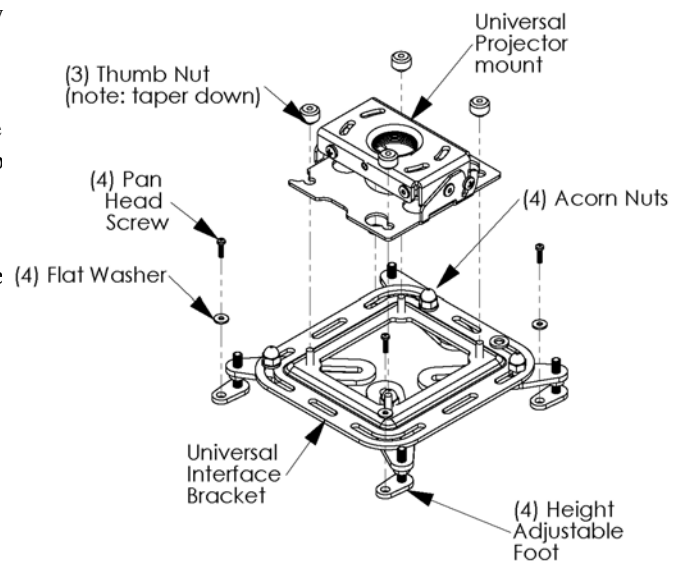

Figure 5. Projector Interface Plate to Universal Ceiling Projector Mount Attachment
1. Loosen, but do not remove, acorn nuts securing arms of the universal projector mount (see Figure 5).
The bracket attaches to the universal projector mount lifting and sliding the screws of the bracket into the slot and four vee slots of the universal projector mount (see Figure 5). Secure the bracket using provided thumb screws and route cabling as necessary. Install the universal projector mount on the bracket as follows: